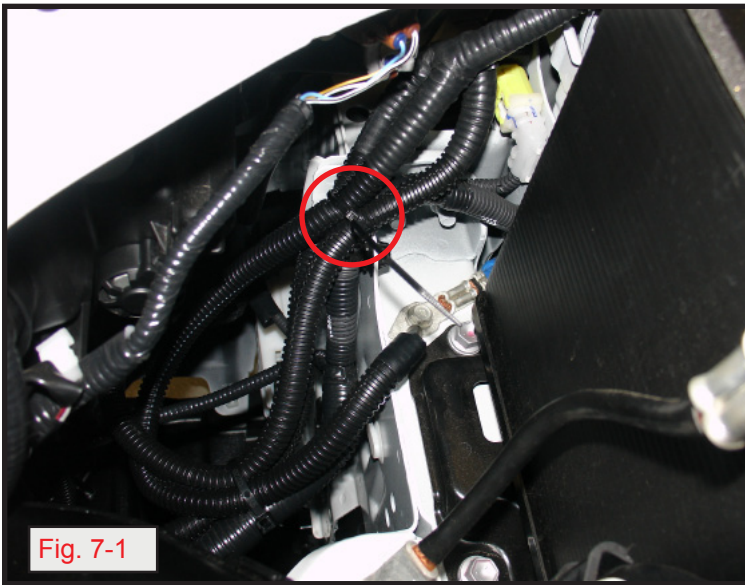

Fig. 7-1
- a. Apply one (1) wire tie behind the left headlight to secure all three (3) fog light harness branch-es to the vehicle ground harness as shown (Fig. 7-1).